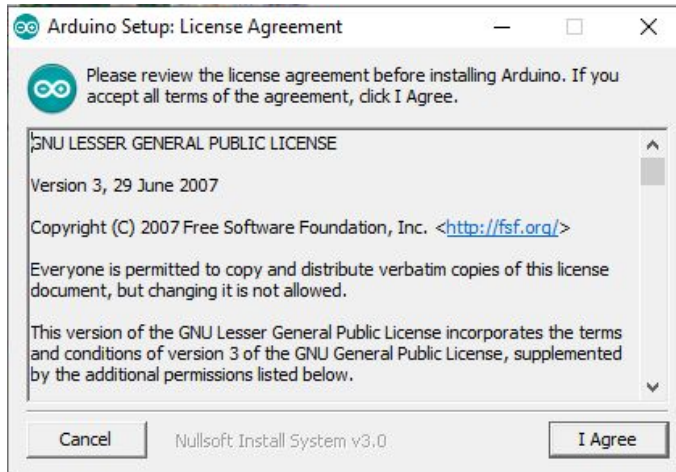

Fig. 2. The start-up screen of the Arduino IDE installer.
3. Left click “I Agree” at the License Agreement screen show below (Fig. 2):